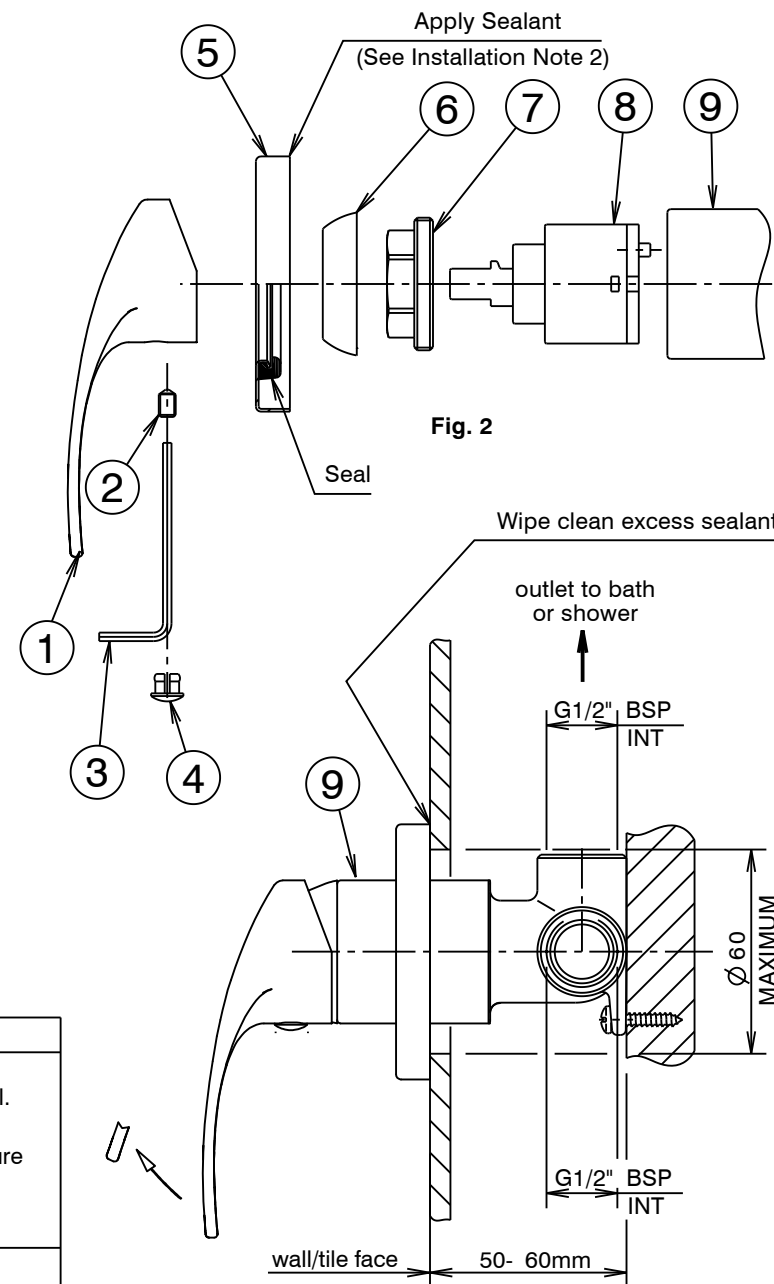

Fig. 1
### Installation (Fig. 1 & 2)
- \* Mixer body (9) must be installed square to wall/tile face, to ensure cover plate (5) sits flush.
- 2) Apply a suitable clear sealant to the back edge of the cover plate (5), to prevent water from entering the wall cavity, leaving an unsealed section at the bottom for drainage. (See Fig. 2). Carefully slide the cover plate (5) together with seal onto the mixer body (9), ensuring the 'HOT' & 'COLD' markings on the cover plate are horizontal. Push firmly against the cover plate (5) until it contacts the wall/tile face & the sealant has formed a waterproof joint. Wipe clean any excess sealant from the chrome surfaces & the wall/tile face (See Fig. 1).
- 3) Fit handle (1) taking care that it is pushed fully down, tighten screw (2) using the 2.5mm allen key (3). Fit indicator plug (4), position with red to the left.